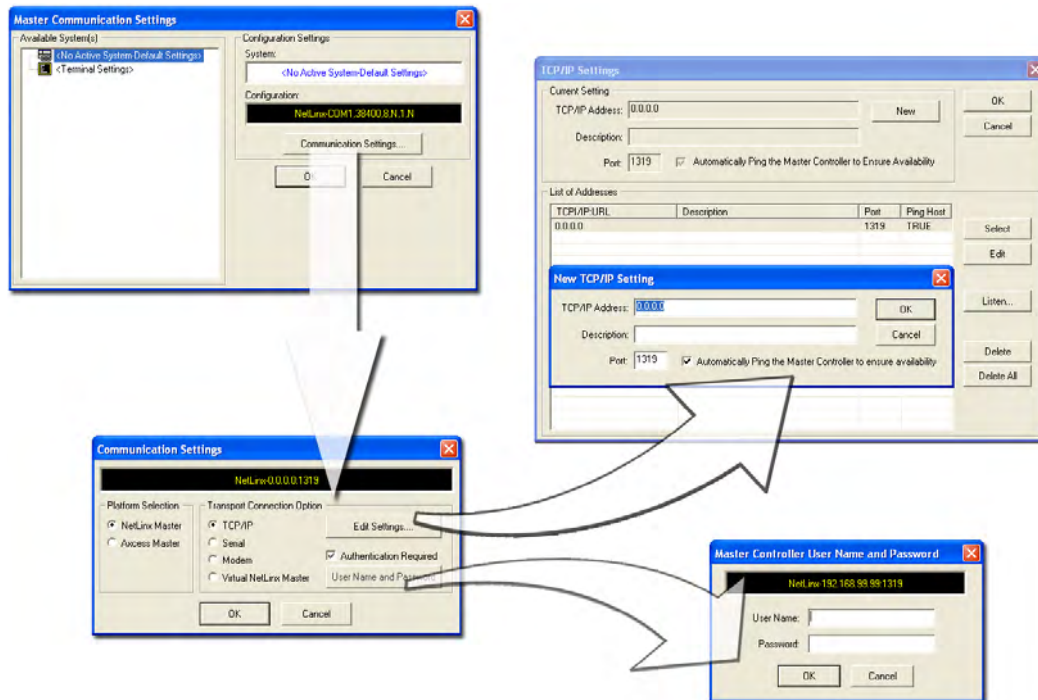

FIG. 4 Assigning Master Communication Settings and TCP/IP Settings
2. Select **Settings > Master Communication Settings** from the Main menu to open the Master Communication Settings dialog (FIG. 4).
6. Click the **Edit Settings** button (on the Communications Settings dialog) to open the TCP/IP Settings dialog (FIG. 4). This dialog contains a series of previously entered IP Address/URLs and their associated names, all of which are stored within Studio and are user-editable.